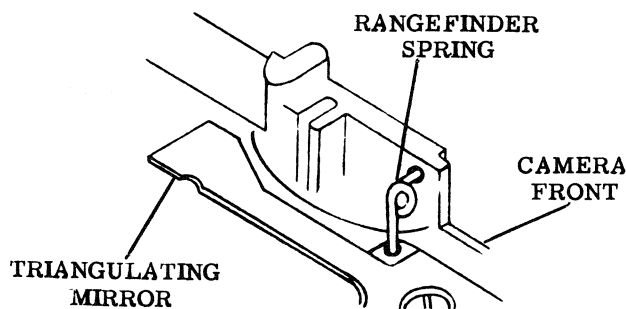

Figure 19. Rangefinder Spring Assembly
d. Mount the rangefinder spring (1) as shown in figure 19.
e. Cement the flat glass (9), (10) and (11) to their respective places on the body assembly (14) with EC-776 cement or Cordo cement.
f. Cement the front and rear viewfinder lenses (12) and (13), with their flat surfaces to the outside, with EC-776 cement or Cordo cement.